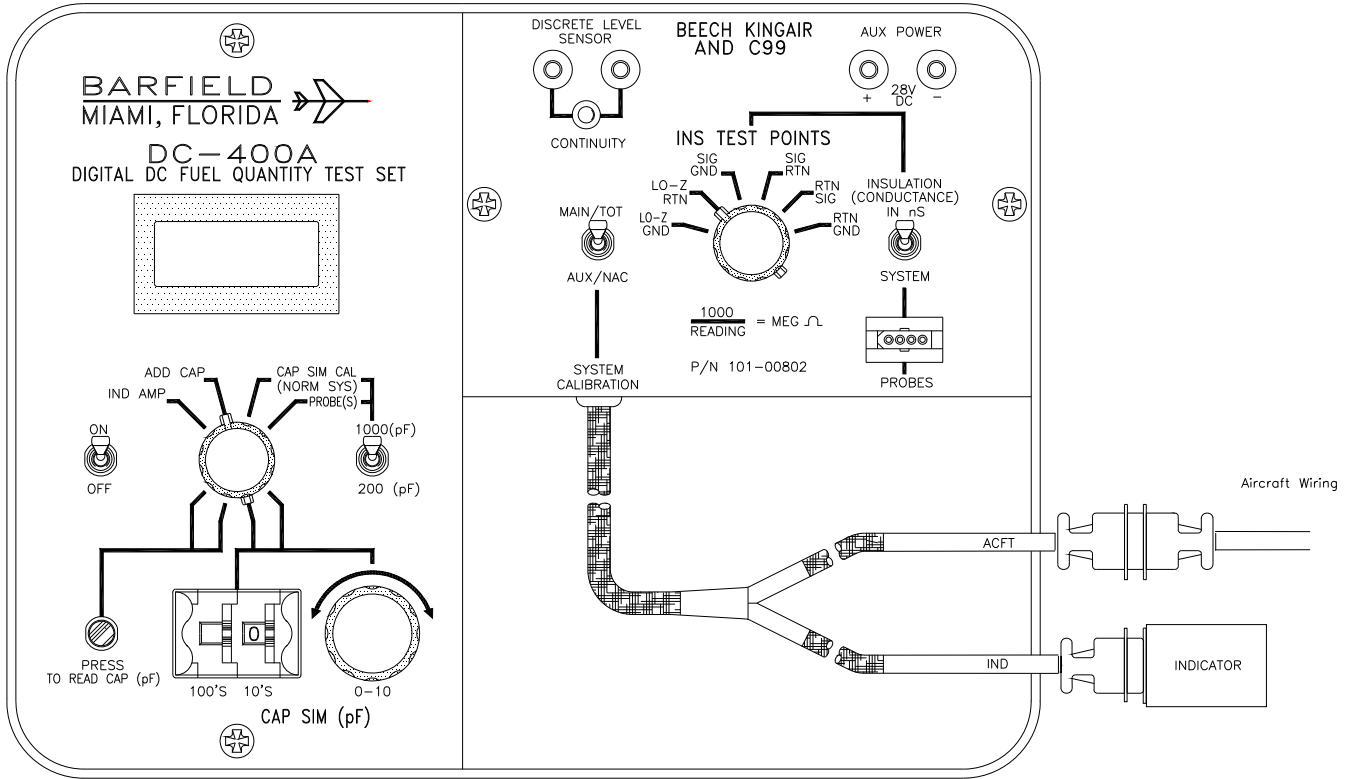
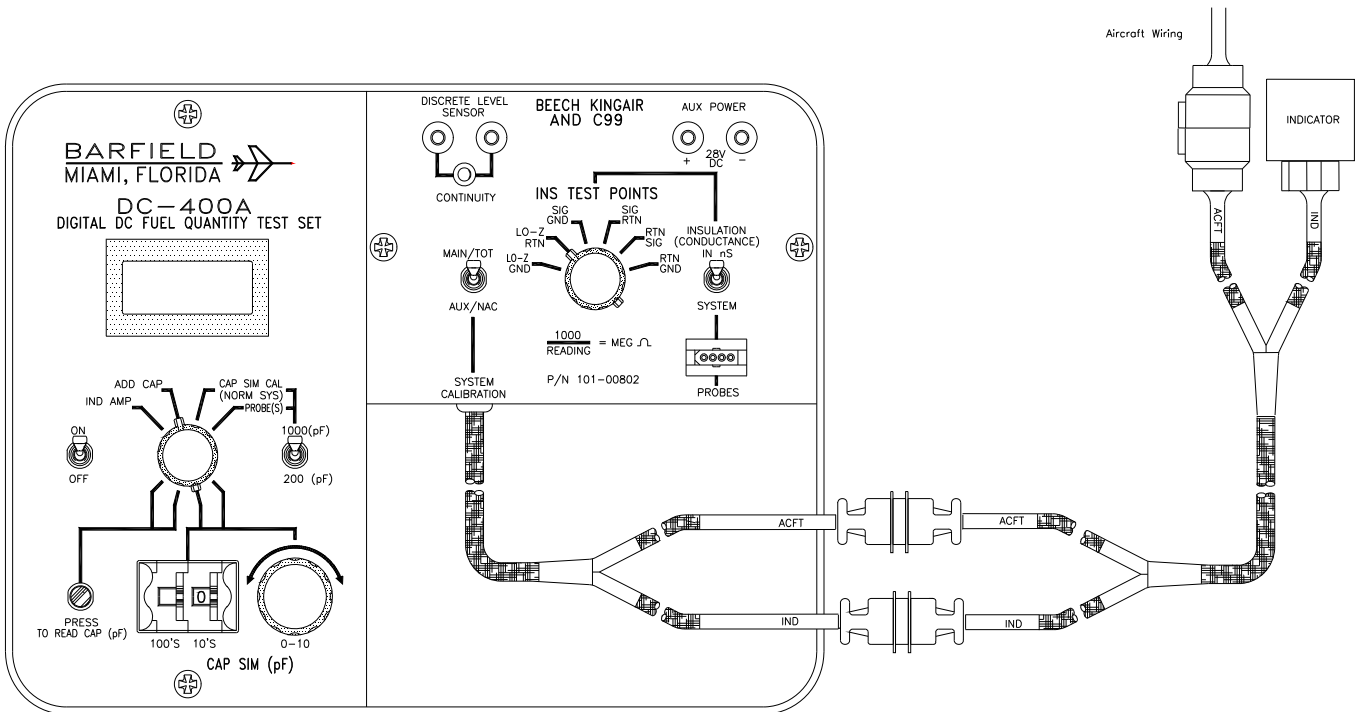

Figure 9 Indicator Test Set Connection
Figure 10 Indicator Test Set Connection
- (1) Determine the number of pins on connector. Connect test set as shown in Figure 9 or Figure 10 accordingly.
- (1) Determine number of pins on indicator connector and connect test set as shown in Figure 9 or Figure 10 accordingly.